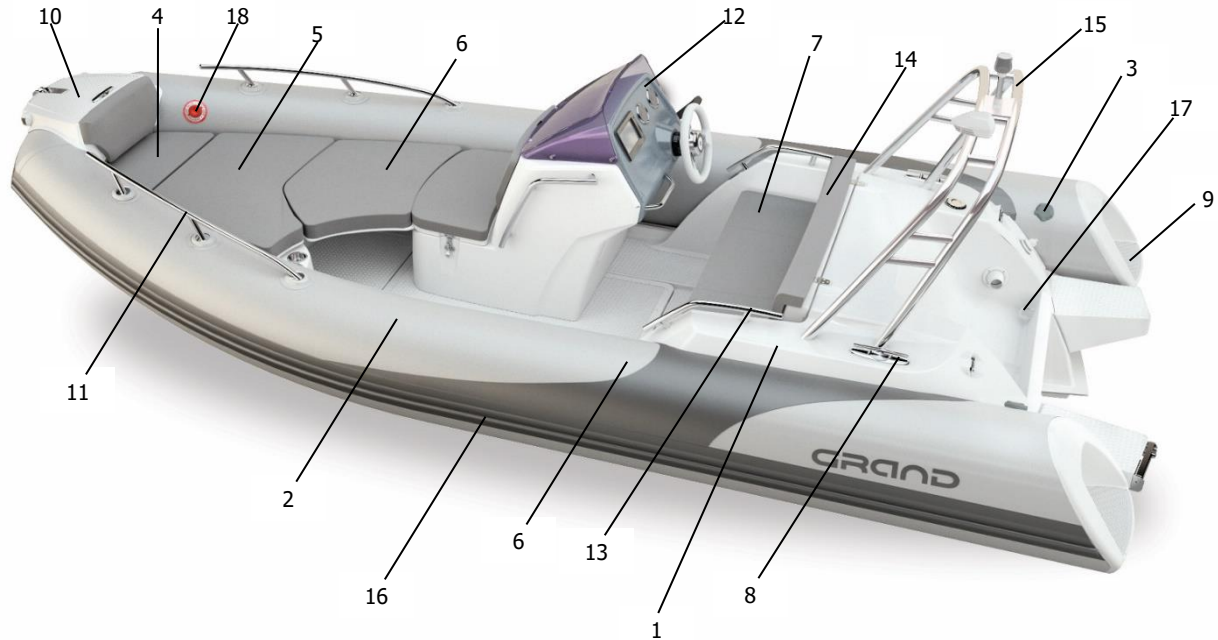

Fig. 48. General arrangement of a boat.
**General arrangement of a boat** (see fig. 48 on the previous page):